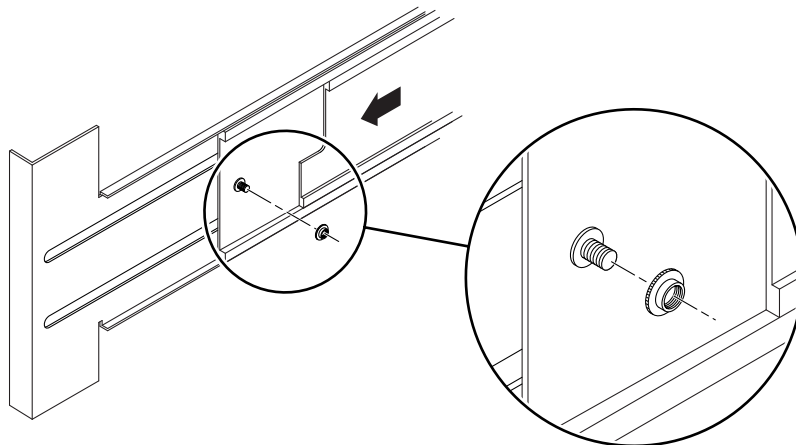

FIGURE 3-12 Inserting and Tightening the Retention Washer
3. From the rear of the system, insert and tighten the supplied retention washer onto the bolt (FIGURE 3-12).
4. From the rear of the system, remove the threaded washer from each bolt, which is connected to the slide (FIGURE 3-12).